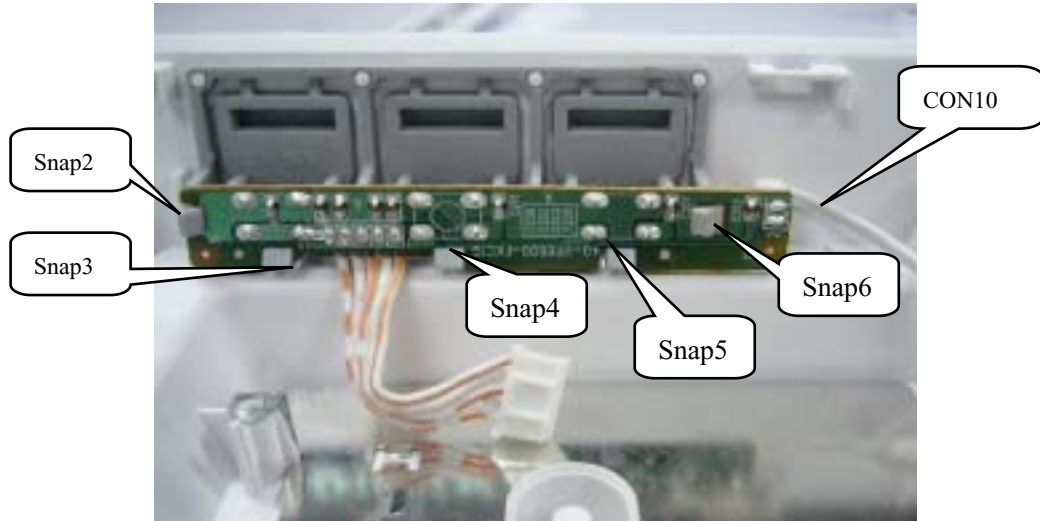

Figure 11
Step8: Dismantling Control Board. Disconnect the 1 connector, then release the snaps around the board. (Figure 11)